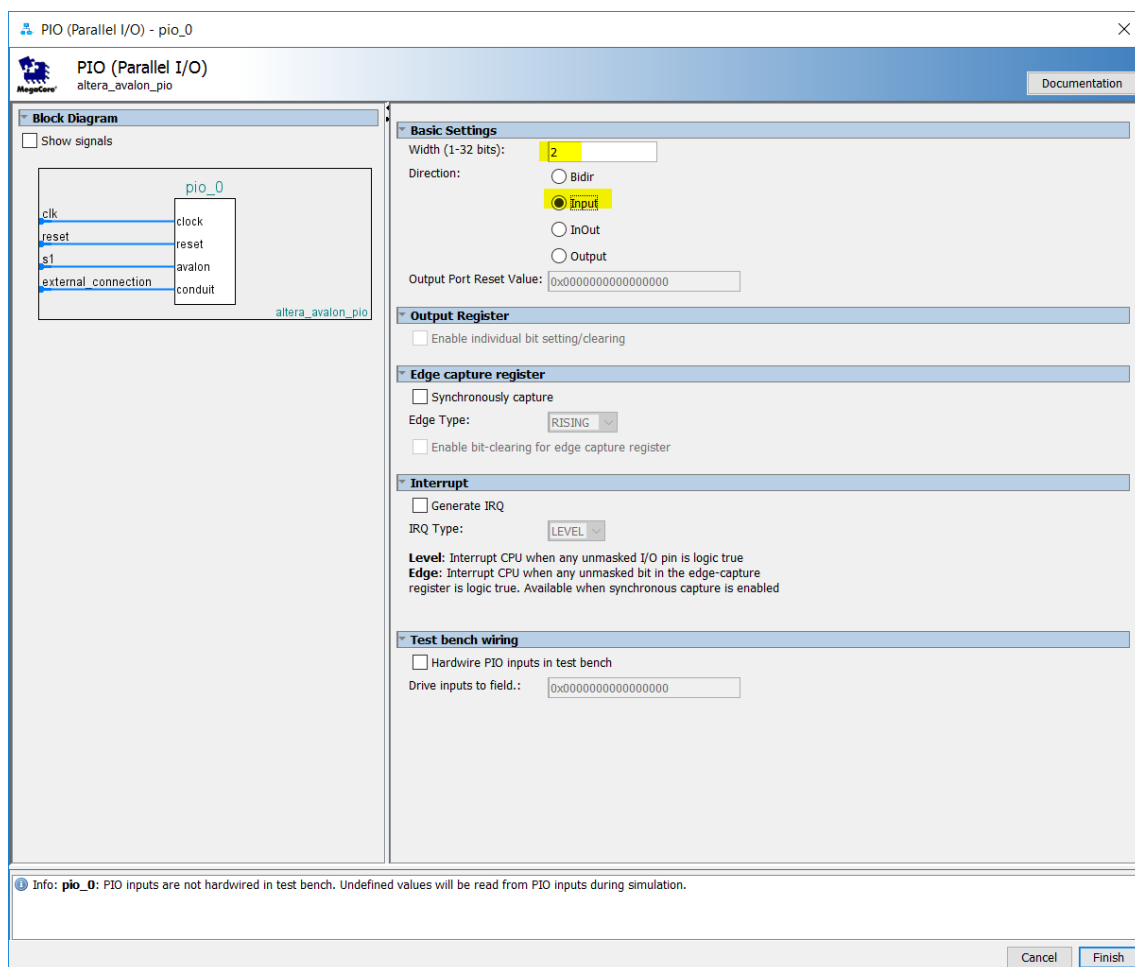

Figure 15: Parallel IO Configuration Panel for Pushbuttons
- ☐ When you have set up your button input component interface as in Figure 15, click **Finish**.